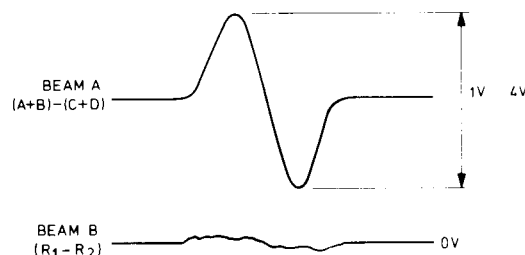

Fig. 7
- Set the frequency of the signal generator to approx. 30 Hz and adjust the amplitude of the generator signal and the power supply so that the objective starts to oscillate freely and an S-curve is displayed on the oscilloscope screen (beam A). The $(R_1 - R_2)$ signal on beam B should be minimum (≤ 100 mVpp). The amplitudes and waveform are shown in Fig. 7.